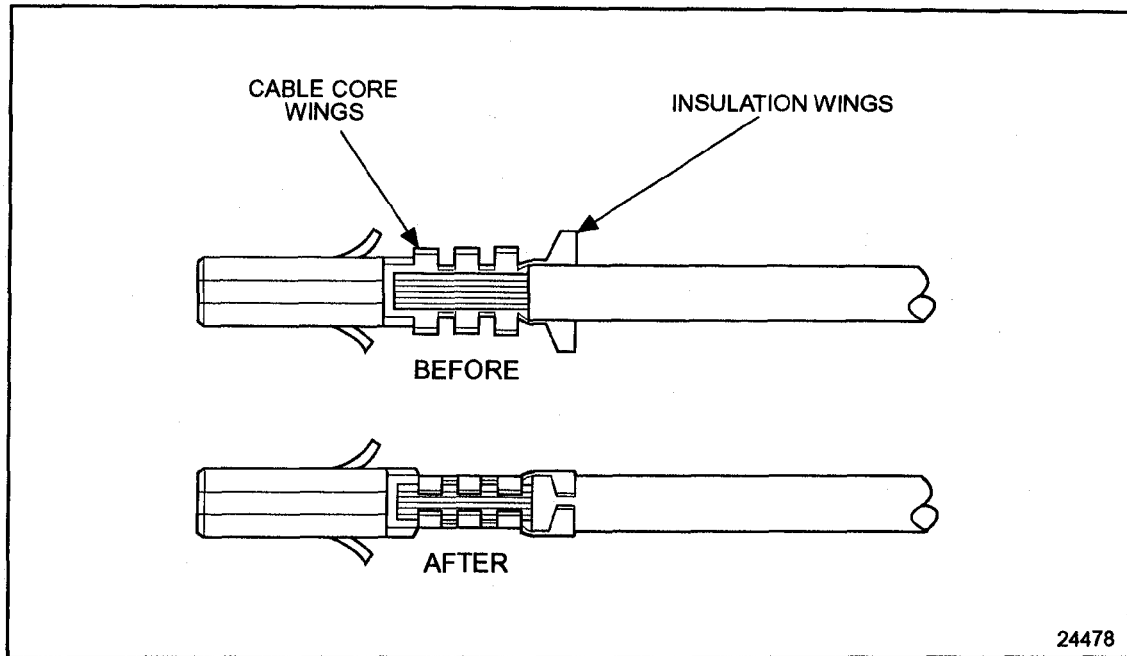

Figure 8-38 Cable and Terminal Position Before and After Crimping
4. Insert the terminal into the locating hole of the crimping tool using the proper hole according to the gauge of the cable to be used. See Figure 8-38.
5. Insert the cable into the terminal until the stripped portion is positioned in the cable core wings, and the seal and insulated portion of the cable are in the insulation wings. See Figure 8-38.
6. Compress the handles of the crimping tool until the ratchet automatically releases and the crimp is complete. See Figure 8-38 for a properly crimped terminal.